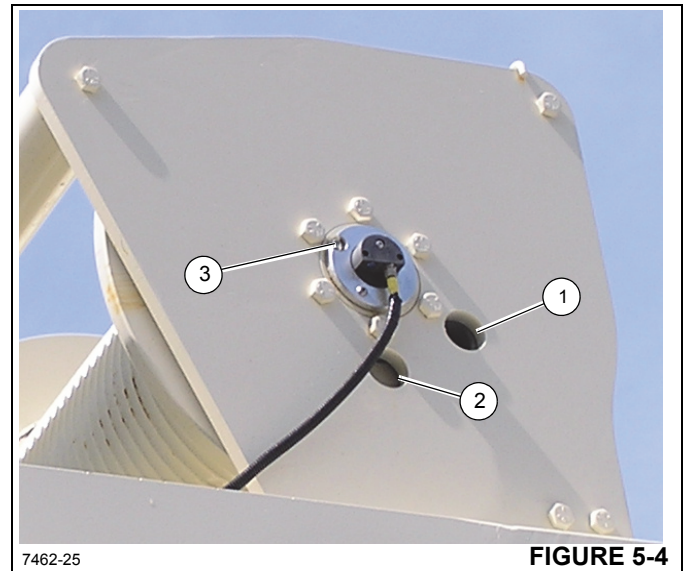

FIGURE 5-4
- Rotate the drum until the oil fill/level plug (1, Figure 5-4) is visible in the inspection hole.
- Remove the fill/level plug (1) and visually inspect the oil level. The oil should be level with the bottom of the
- To drain and add new oil, remove the vent plug (3, Figure 5-4). Remove the drain plug (2) with a hex head socket and then screw a 1" pipe into the drain plug hole (2) to allow the oil to drain. Drain hydraulic oil. Remove the 1" drain pipe and install drain plug (2).
- To fill with oil, rotate the drum so the fill/level port (1, Figure 5-4) is visible through the upper hole. Install a 1" pipe with elbow into the fill hole (1) to assist in adding oil. Remove fill/level plug with a hex socket and fill gear box with 3.3 l (3.50 qt) of gear lube oil. See *Lubrication*, page 5-3.